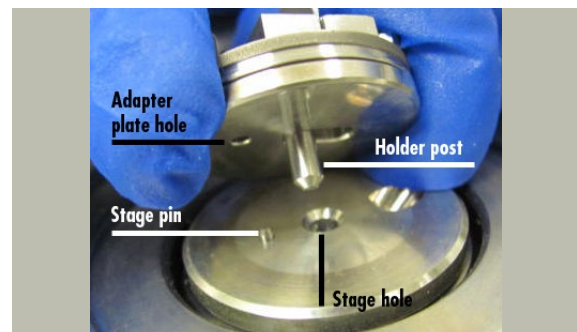

Figure 7. Insert the holder post into the stage hole.
- a. Insert the cross-section holder post into the stage hole (Figure 7).